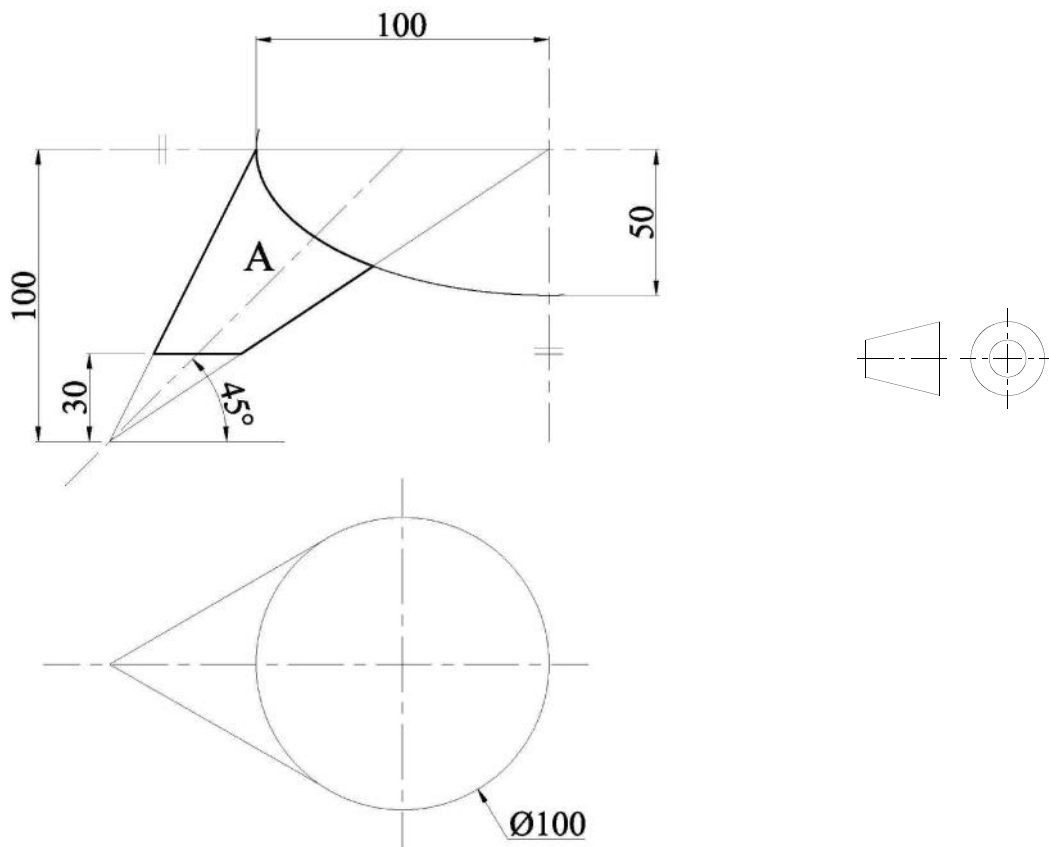

FIG. 2
- b) Draw the quarter ellipse on the front elevation and the cutting plane parallel to the base as shown in Figure 2.